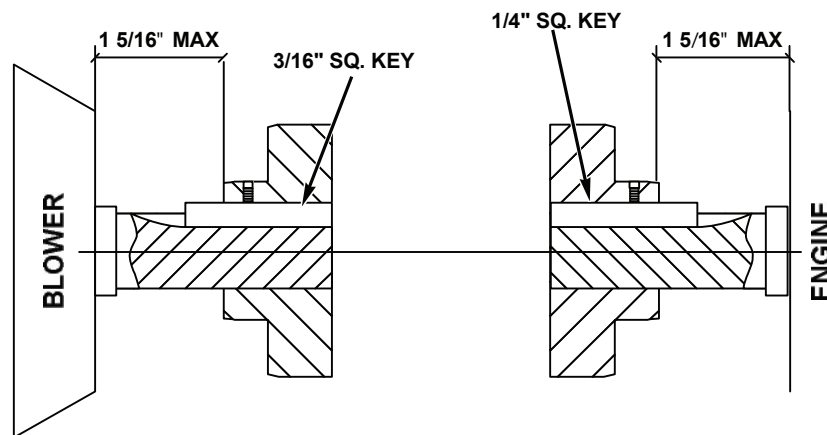

Figure 14- Coupling Assembly
6. Slide the engine coupling and 1/4" key onto the engine drive shaft. Position the engine coupling 1-5/16" from the engine. Reference Figure 14.
8. Slide the blower coupling and 3/16" key onto the blower drive shaft. Position the blower coupling 1-5/16" from the blower. Reference Figure 14.